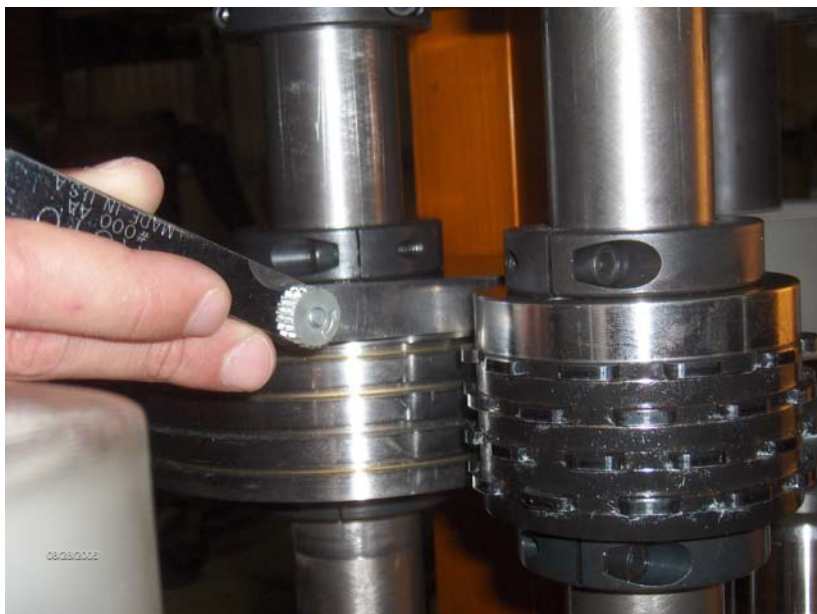

Fig. 7 Using Feeler Gauge to Set Perforation Clearance
- E. When the protrusions on the male rollers reach the slots in the female rollers, use a Feeler Gauge to set the clearance between the rollers (see Fig. 7 below). The clearance should be set at about 0.060" at both the top and bottom.